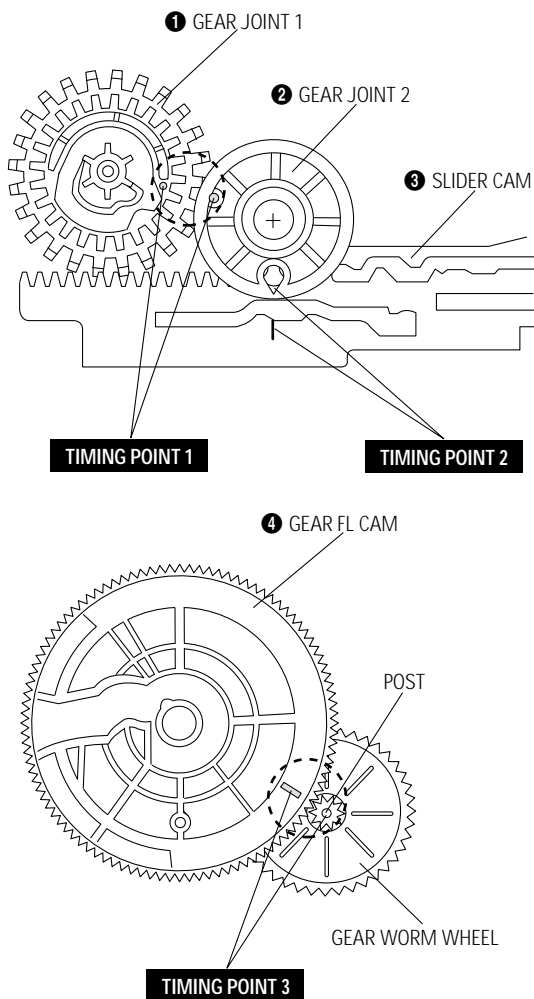

Fig. 4-14 Assembly of Gear FL Cam, Gear Joint 1, 2
- 1) Be sure to align dot mark of Gear Joint 1 ❶ with dot mark of Gear Joint 2 ❷ as shown Fig. 4-14 (Refer to Timing Point 1), confirm the Timing Point 2 of the Gear Joint 2 ❷ and Slider Cam ❸.
- 2) Align the Gear FL Cam ❹ with the Gear Worm Wheel Post as shown detail drawing. (Refer to Timing Point 3)